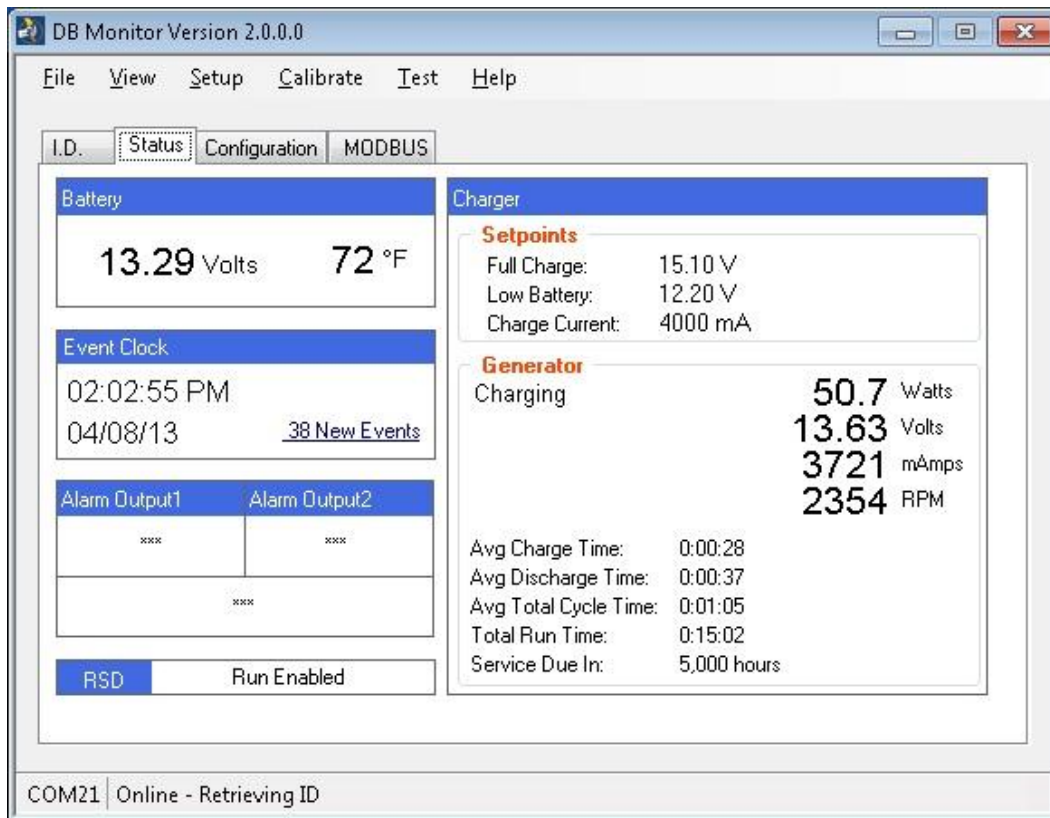

Figure 3-21. Status tab
12. Click the **Status tab** to view the present state of the generator and battery. An example of the information displayed is shown in Figure 3-21 (page 33).